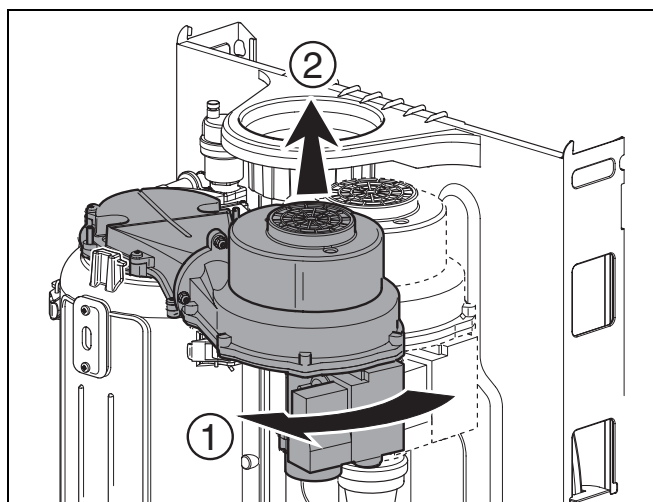

fig. 60 Remove gas air unit
- By turning the unit a quarter turn (fig. 60, step 1), the unit can be removed by lifting it out of the boiler (fig. 60, step 2).